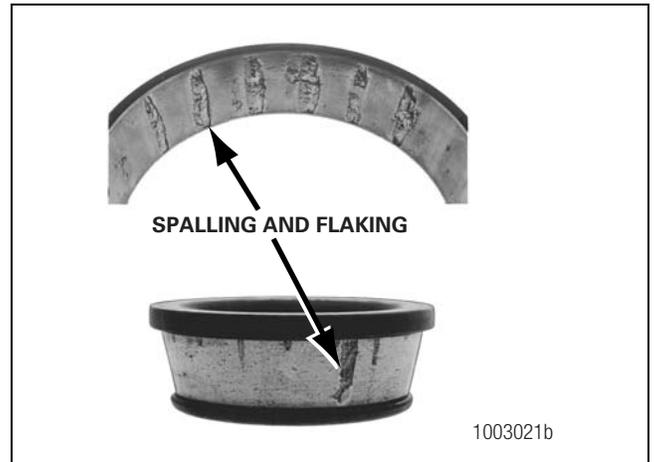

Figure 4.5
- There is damage on the cup and cone inner surfaces that touch the rollers. Figure 4.5.